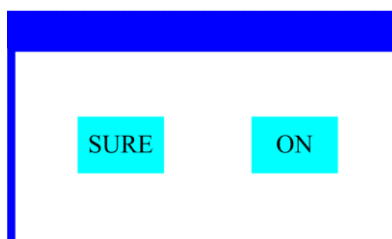

Figure 5 Dialog of confirm
- When the parameter is a key item, chick corresponding item, a dialog shown in Figure 5 will been pop up ask for the confirm. Chick ‘sure’ to confirm.